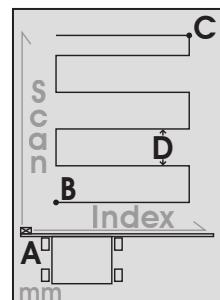

Fig. 58 - Horizontal
The diagram (Fig. 58) indicates the scan functions that may be entered. Each point and setting, **A,B,C,D**, corresponds to a coordinate entry button on the right side of the screen.
**Path Button:** A toggle between a horizontal (Fig. 58) or vertical (Fig. 59) scan path.